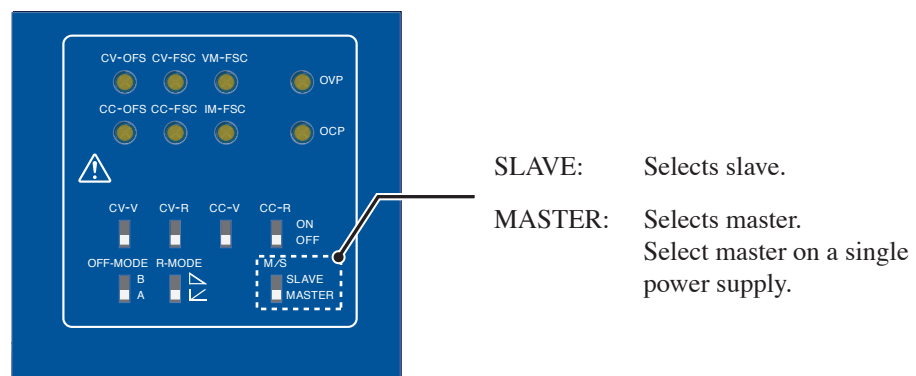

Fig. 4-15 Master-slave parallel operation setup
5. Set the M/S switch on the master and slave power supplies as shown in Fig. 4-15.